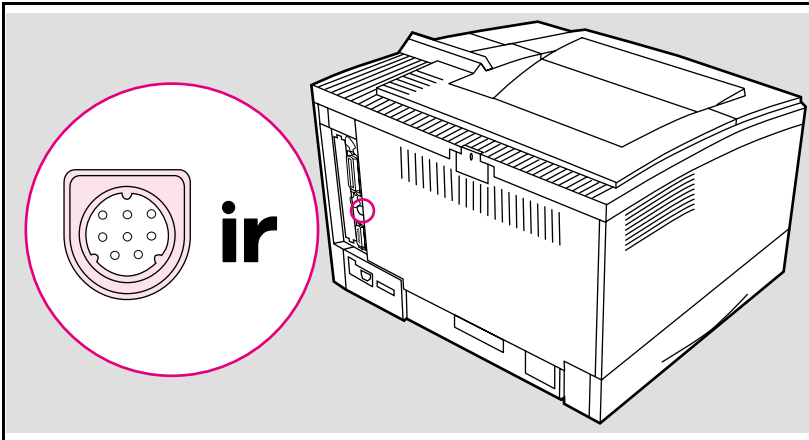
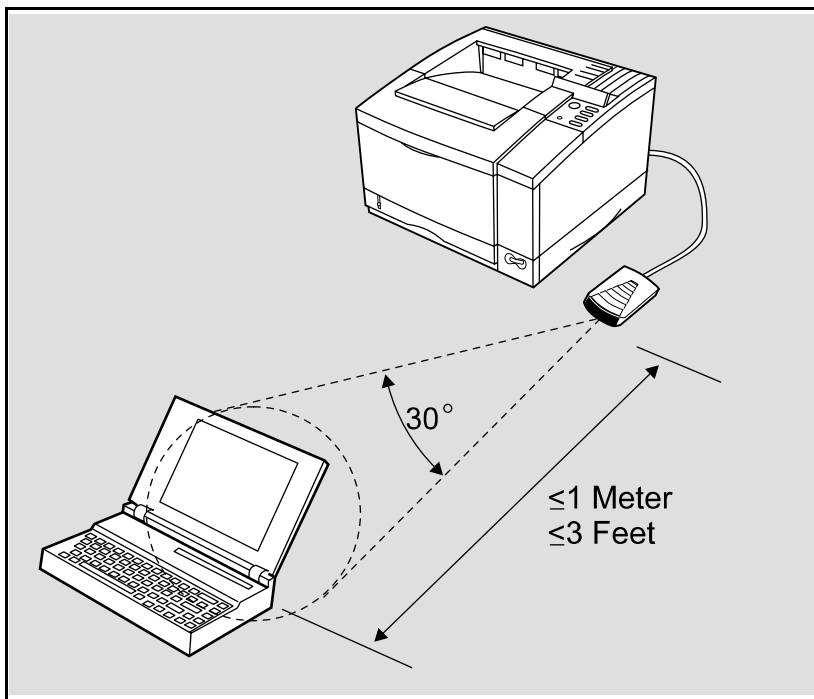

Figure B-6 IrDA Port Location
Figure B-7 IrDa Port Ranges
The C2929A Infrared Transceiver must be plugged into the infrared (IR) port on your HP LaserJet 5, 5M, or 5N printer, located at the rear of the printer (Figure B-6). This port is compliant with the specifications determined by the Infrared Data Association (IrDA). On top of the transceiver pod is a status light that indicates when the port is activated. To use the IR port, you need to use a portable device that also includes an IrDA-compliant IR port and be within the range of operation (see Figure B-7).